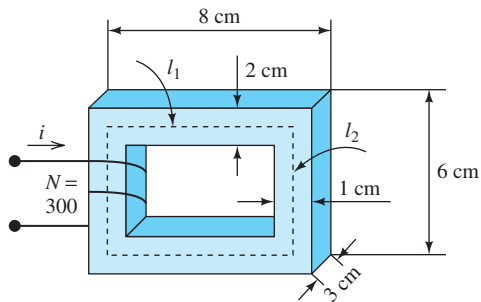

FIGURE P12.17 Magnetic core.
12.17 (A)* Given $\mu_r = 3000$ and $i = 7$ A, find the mmf and the flux ϕ for the magnetic circuit in Figure P12.17.